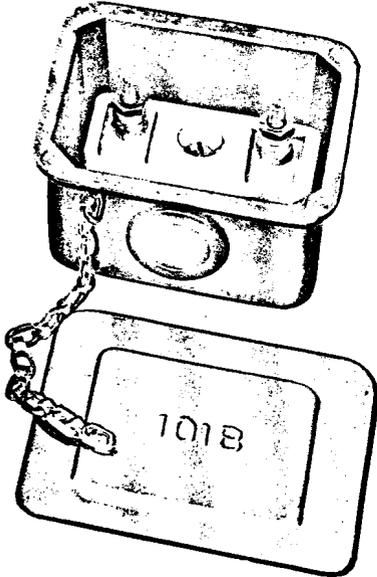

Figure 2
- 2.02 The 101B wire terminal is constructed of durable cast aluminum and equipped with a heavy gauge aluminum sliding cover. Two bindings are mounted in a ceramic base, each binding post is equipped with five washers between two hexagonal nuts providing for up to four drop and block wires. The base is provided with a grommet for wire entrance. (See Figure 2)
- 3.02 The 101B wire terminal is used to make line connections to "C" rural wire without removing insulation or for connecting bridle wire to "C" rural wire from cable or open wire; also used for connecting subscriber drop wire or line protector to "C" rural wire. (See Figure 2)